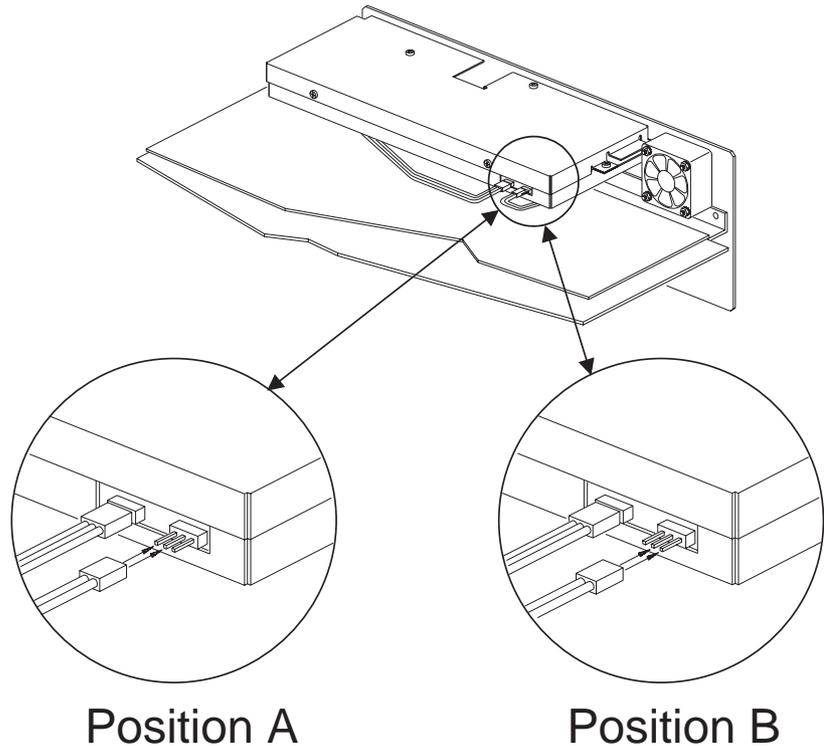

Figure 9-2 Cable Positions for Monitor Selection
6. The cable connector has three pins that stick out from the metal case. The cable connects to either the left two pins or the right two pins (see Figure 9-2). If the cable is in Position A, the monitor signal will come from the input. If the cable is in Position B, the monitor signal will come from the final processed reading. The polarity of the connection does not matter. Move the cable to the desired position.